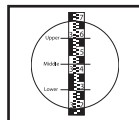

Fig.7
- Read the staff where it is intersected by the middle hair. With metric staffs it is usual to estimate to 1mm. The height reading in Fig.7 is 3.456m
- For example, in Fig.7 these readings are at 3.601m and 3.309m, therefore, the distance from the instrument to the staff is: